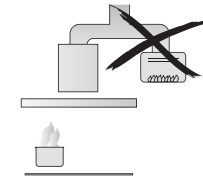

Fig. 1
- ⊘ The exhaust from the rangehood must not be discharged into any heating flue, which may carry combustion products from other sources.(Fig.1)